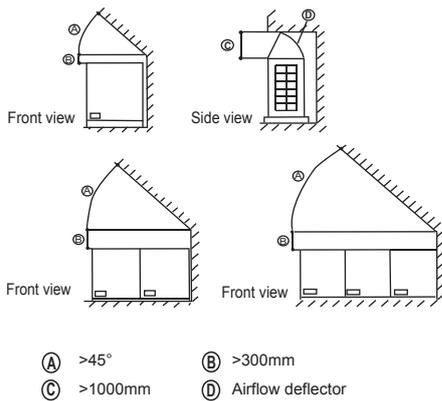

Fig.4-14
- In case any obstacles exist above the outdoor unit, refer to Fig.4-14.